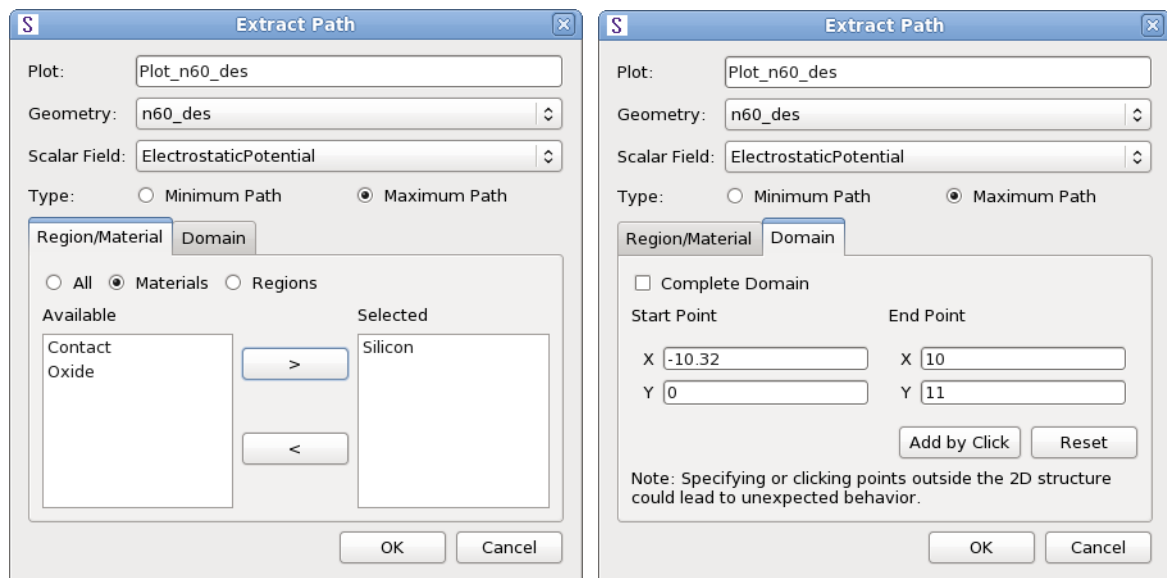

Figure 103 Extract Path dialog box showing (left) Region/Material tab and (right) Domain tab
You can use a Tcl command to extract the path (see extract\\_path on page 180) or the corresponding dialog box, which is available from **Tools > Extract Path** (see Figure 103).
6. Optionally, if you require greater precision, click the **Domain** tab to specify the start and end points of a smaller window of analysis (see Figure 103 on page 125 \(right\)).